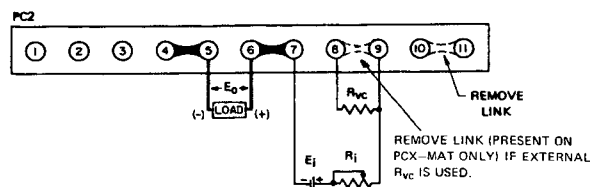

FIG. 3-10 CONNECTIONS FOR VOLTAGE PROGRAMMING
3-39 PROCEDURE (Refer to FIG. 3-10)
- a) Connect components as shown in FIG. 3-10, disconnect link between terminals (10) and (11) on the barrier strip.